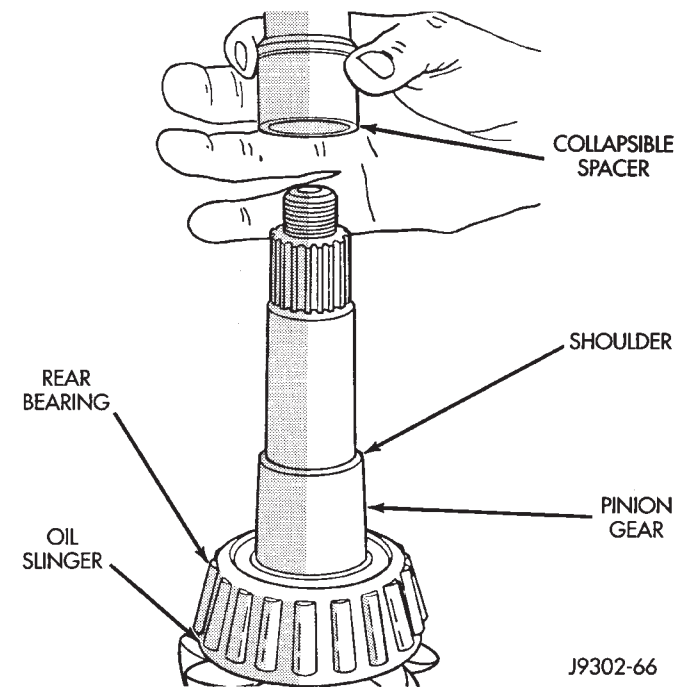

Fig. 20 Collapsible Spacer
(7) Remove the collapsible preload spacer (Fig. 20).